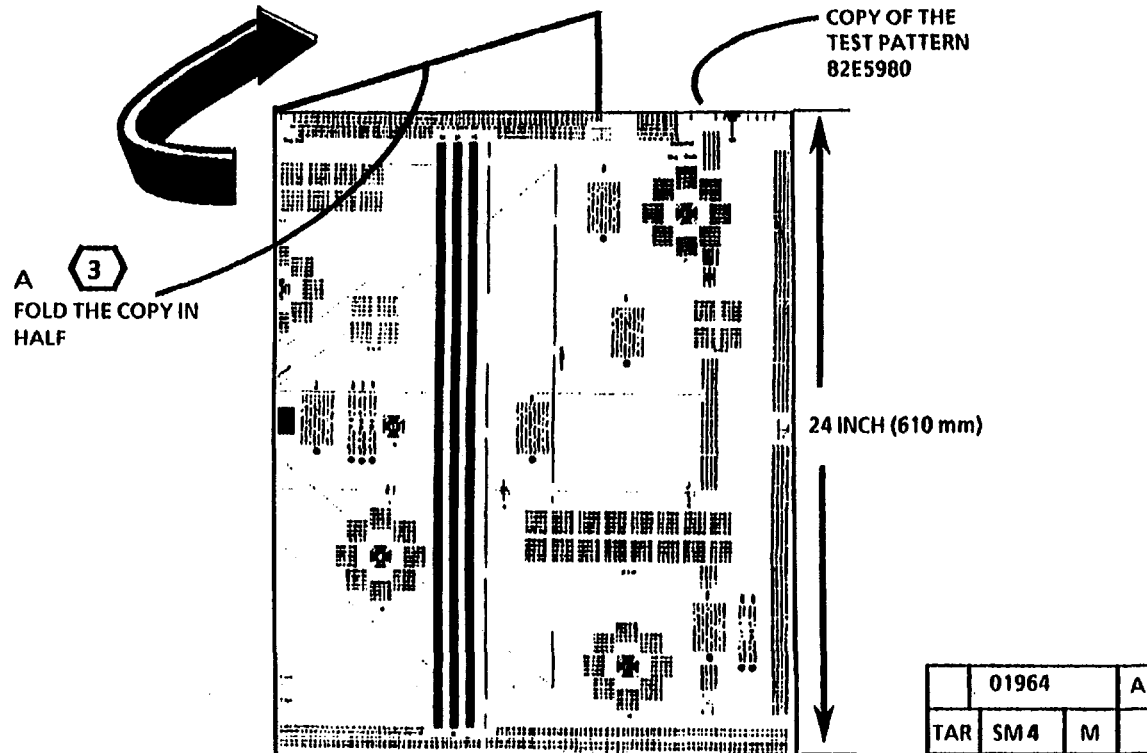

Figure 1. Fold the Copy in Half
① To give the copy media time to stabilize, wait 5 minutes before checking the third copy with the test pattern. Discard the first 2 copies.
② STEP 2 A: Folding the copy in half will allow measuring the length of the copy media in the middle.
- (Figure 1): Fold the copy in half.